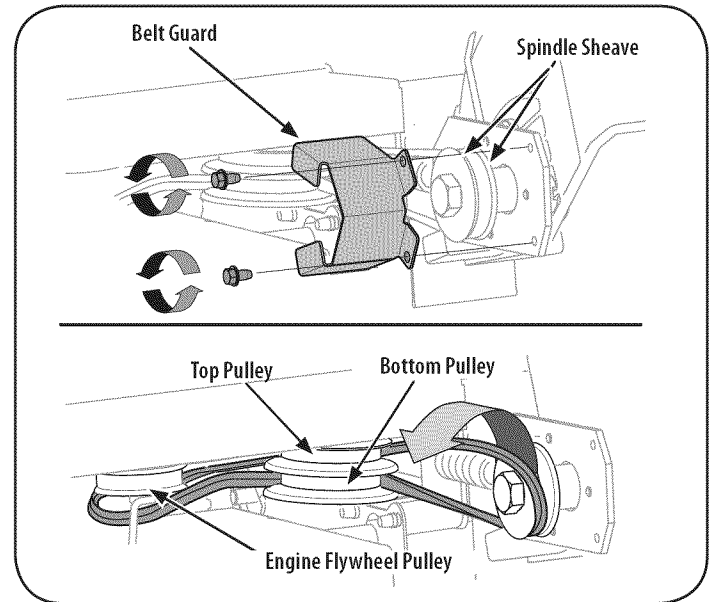

Figure 21
NOTE: Make certain that the drive belt is seated correctly on the blade spindle and that it is riding smoothly on the spindle sheaves (see Figure 21) and is not pinched between them. Repeat the first three steps if the belt is pinched.
3. Remove the spindle sheaves belt guard by removing the two self-tapping screws which secure it to the blade plate assembly. See Figure 21.
4. Carefully remove the belt from off of the pulleys, again making sure to note the orientation of the belt. Discard the belt. See Figure 21.
NOTE: Make certain that the "V" side of the belt is seated into the top pulley and the flat side of the belt is seated into the bottom pulley. See Figure 21.